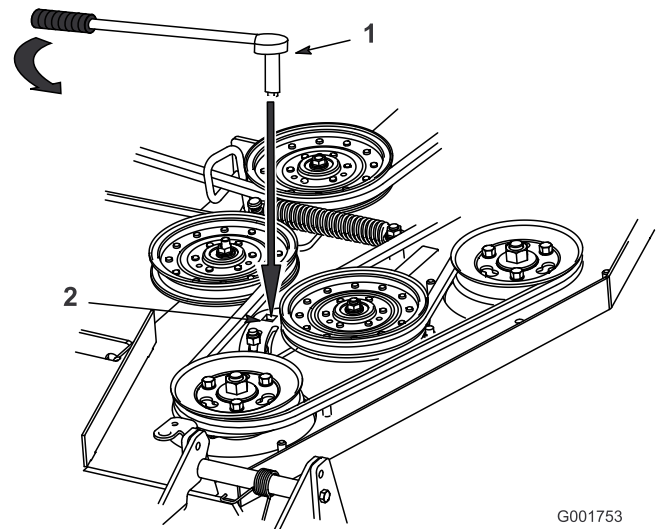

Figure 56
5. If adjustment is required, loosen the idler plate to adjust it (Figure 56).
6. Insert a ratchet or breaker bar into the square hole in the idler plate to adjust the tension (Figure 56).
7. To increase belt tension, rotate the ratchet or breaker bar to move the fixed idler until you feel increased resistance and the spring-loaded idler pulley stops moving (Figure 56).
8. While holding the belt tension, tighten the idler plate bolts that secure the idler plate (Figure 56).
10. Adjust the belt tension and the idler plate, if necessary, and tighten all hardware securely (Figure 56).